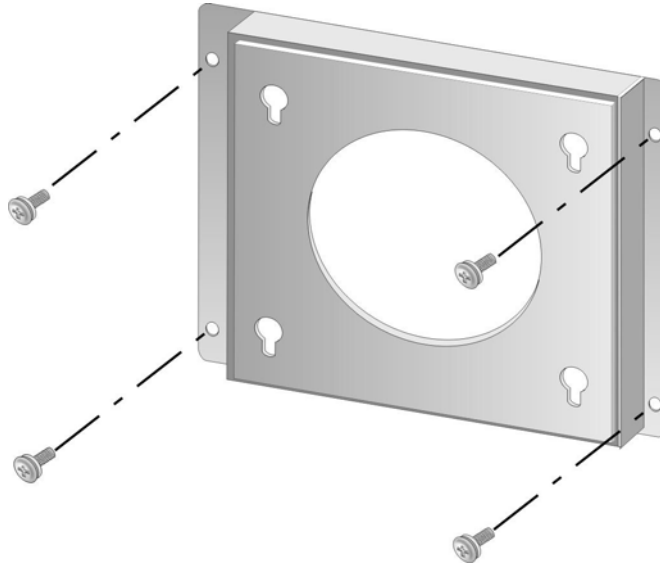

Figure 4-14: Wall-mounting Bracket
Step 5: Secure the mounting-bracket to the wall by inserting the retention screws into the four pilot holes and tightening them (**Figure 4-14**).